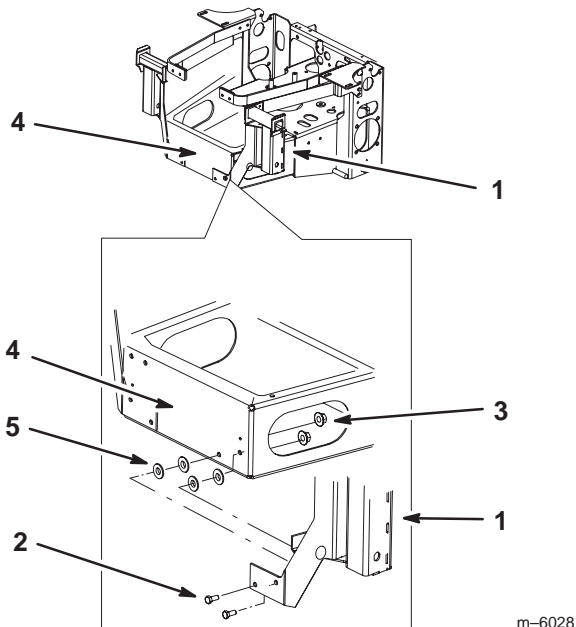

Figure 13
5. Install the bagger mounting bracket to the bottom rear bumper with 2 bolts (5/16 x 3/4 in.), 4 flat washers (5/16 in.), and 2 flange nuts (5/16 in.) (Fig. 13).
1. Tighten the bagger mounting bracket to the rear bumper (Fig. 13). See torque table.